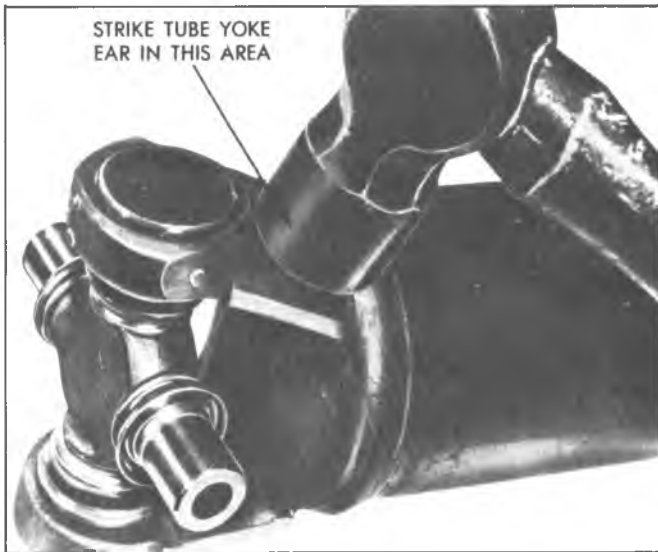

Fig. 6—Seating Snap Rings
7. Continue to press until the opposite bearing retainer can be snapped into place. If difficulty is encountered, strike the yoke firmly with a hammer to aid in seating bearing retainers. This springs the yoke ears slightly. See figure 6.